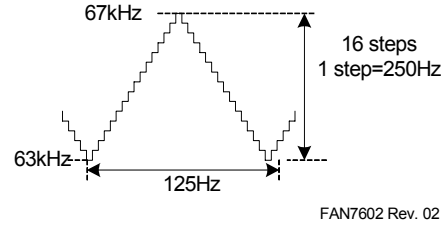

Figure 20. Frequency Modulation
The oscillator frequency is set internally and a frequency modulation (FM) function reduces EMI. The average frequency is 65kHz and the modulation frequency is ± 2 kHz. The frequency varies from 63kHz to 67kHz with 16 steps. The frequency step is 250Hz and FM frequency is 125Hz, as shown in Figure 20.